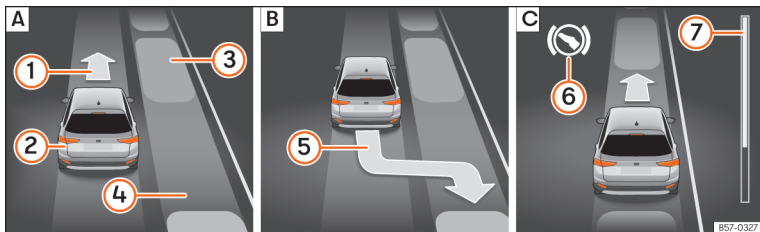
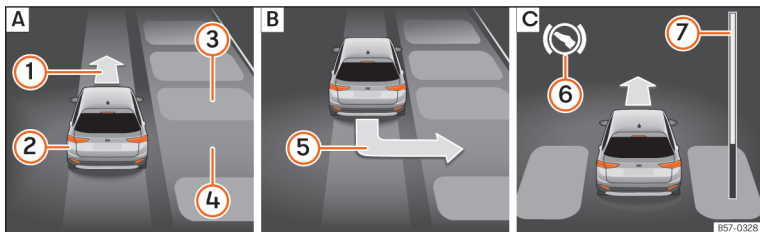

Fig. 250 On the instrument panel display: parallel parking. **[A]** Finding a parking space. **[B]** Parking position. **[C]** Manoeuvring.
Fig. 251 On the instrument panel display: angle parking. **[A]** Finding a parking space. **[B]** Parking position. **[C]** Manoeuvring.
- Look at the display on the instrument panel to see if the space has been detected as “appropriate” and if the correct position for parking has been reached »» Fig. 250 **[B]** or »» Fig. 251 **[B]**. The space is considered
- Reverse until the continuous ParkPilot signal sounds; **OR:** reverse until the indication to move forward appears on the instrument panel display »» Fig. 250 [C] or »» Fig. 251 [C]; **OR:** reverse until the **Park Assist finished** message appears on the instrument panel display. The progress bar [7] indicates the distance to cover »» page 274.
- Move forward until the continuous ParkPilot signal sounds; **OR:** move forward until the reverse indication appears on the instrument panel display. The Park Assist system steers the vehicle forward and back until it centres it in the space »» Fig. 250 [C] or »» Fig. 251 [C].
»» Fig. 250 [7] and »» Fig. 251 [7] on the screen of the instrument panel displays the relative distance to be covered. The greater the distance, the fuller the progress bar. When driving forward, the content of the progress bar decreases upwards, and when reversing, it decreases downwards.